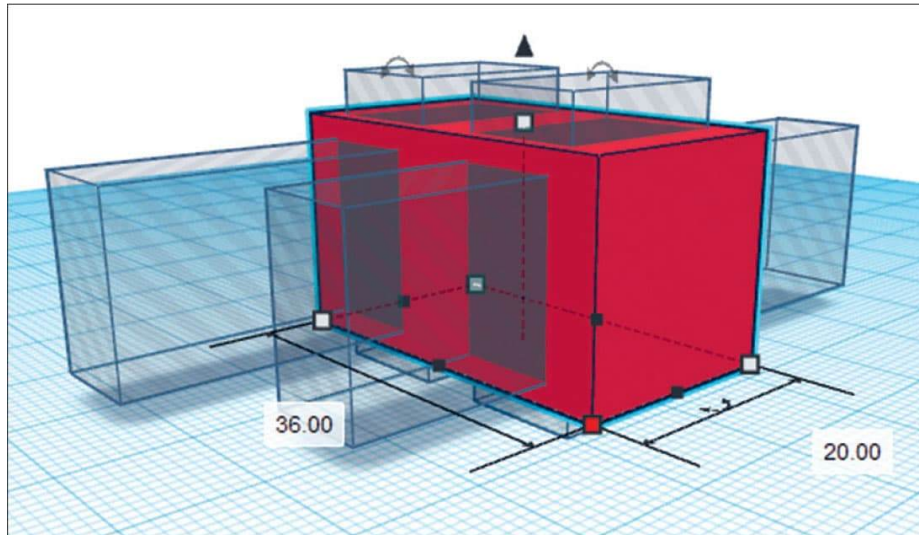

FIG. 1: Slide numerous rectangular holes into a cube to design a coral reef model.
1. The frame of the coral reef can be of any shape, including nonbasic shapes. In our example, we will use a rectangle-based frame with horizontal and vertical holes as shown in fig. 1. Typically, no dimension should be greater than 50 mm. The holes can be of any shape. We have chosen rectangular holes as seen in figs. 1 and 2.